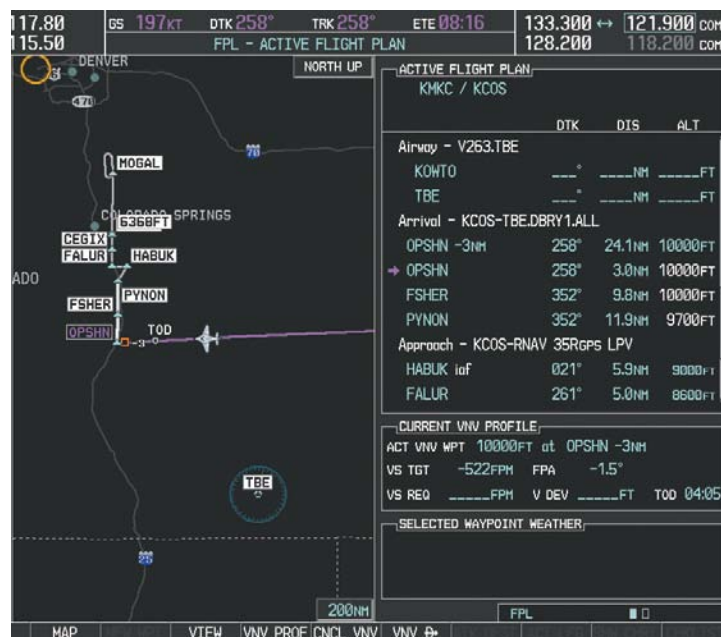

Figure 5-130 Adjusting the Descent
- Select the **VNV PROF** Softkey to place the cursor in the target vertical speed field (VS TGT) as shown in Figure 5-130.